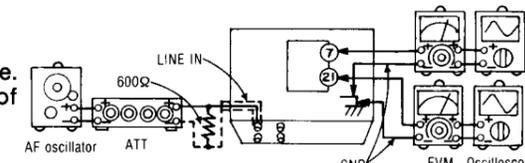

Fig. 12
1. Test equipment connection is shown in Fig. 12.